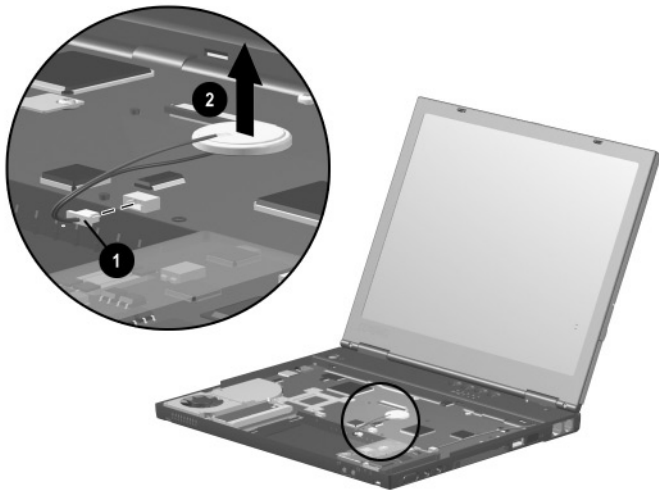

Figure 5-20. Removing the RTC Battery
4. Disconnect the RTC battery cable from the system board ❶ (Figure 5-20).
5. Remove the RTC battery ❷.